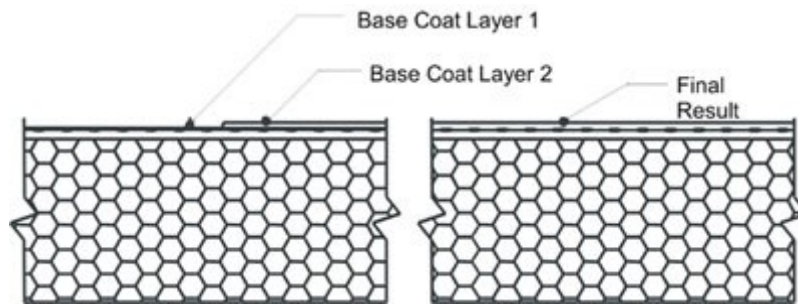

Figure 11: Fig. 11 : Reinforcing Mesh
- 1) The base coat shall be applied such that the resulting overall minimum base coat thickness is sufficient to **fully embed** the reinforcing mesh. The recommended method is to apply the base coat in two (2) passes.
- c) Allow the base coat mixture to take up until firm to the touch. Trowel a second tight coat of the base coat mixture over the first coat to **fully cover** the reinforcing mesh - Figure 11. The result should be such that the reinforcing mesh is approximately centered within the base coat thickness. Do not allow the first pass to completely dry prior to the second pass application or an excessive amount of base coat mixture will be necessary to fully coat the wall surface.